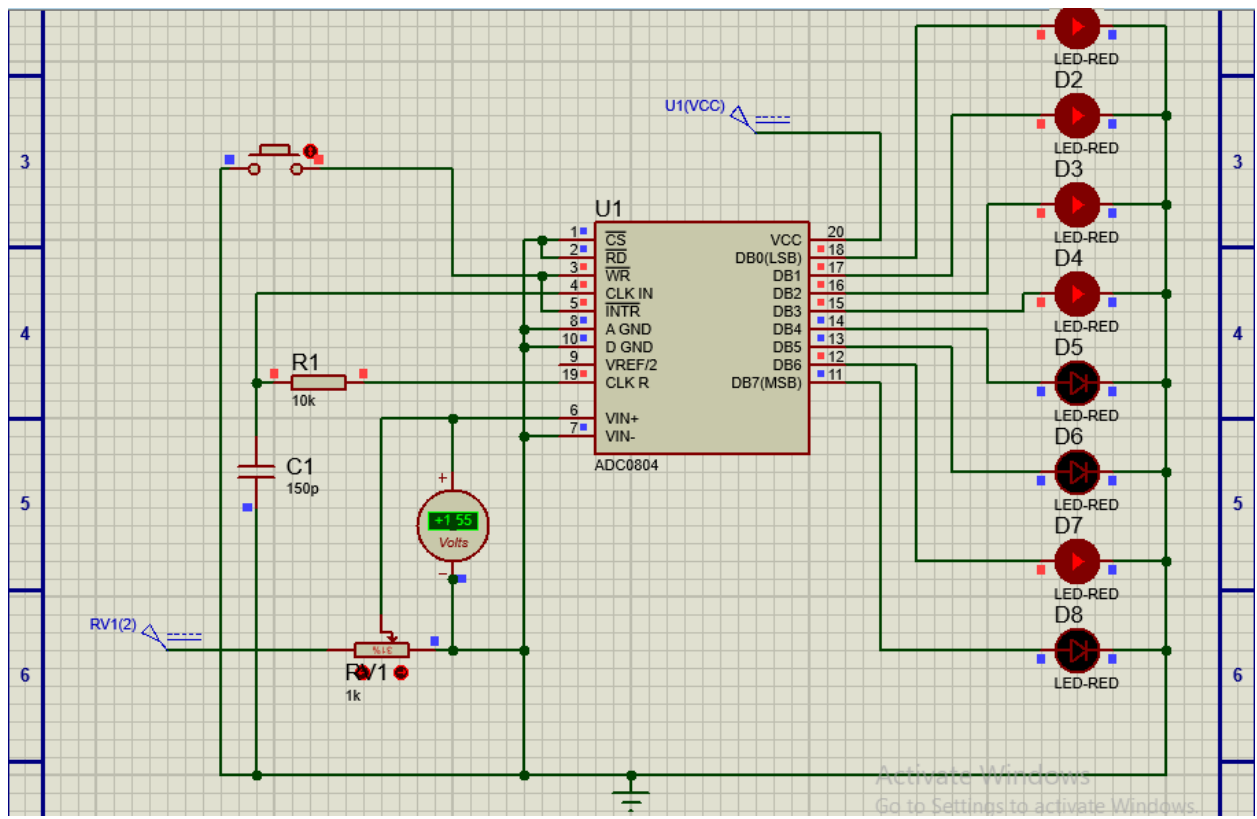

Figure 1
**Results shown by Figure 1:**